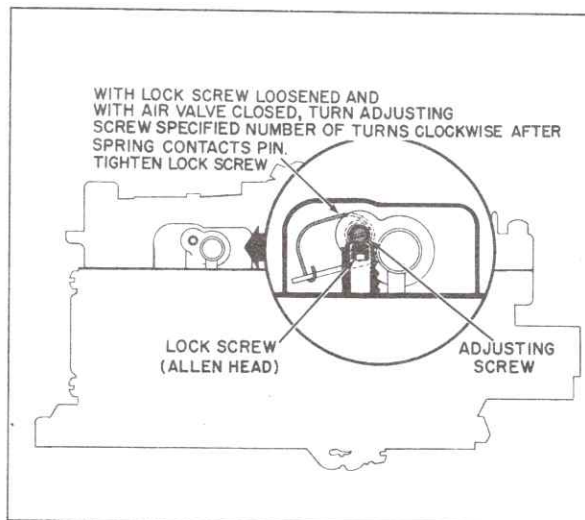

Fig. 6-103 Air Valve Spring Windup Adjustment
### 85. Air Valve Spring Wind-Up Adjustment (Fig. 6-103)
1. Loosen lockscrew (Allen screw) Fig. 6-103, and turn adjusting screw counterclockwise to remove all spring tension.